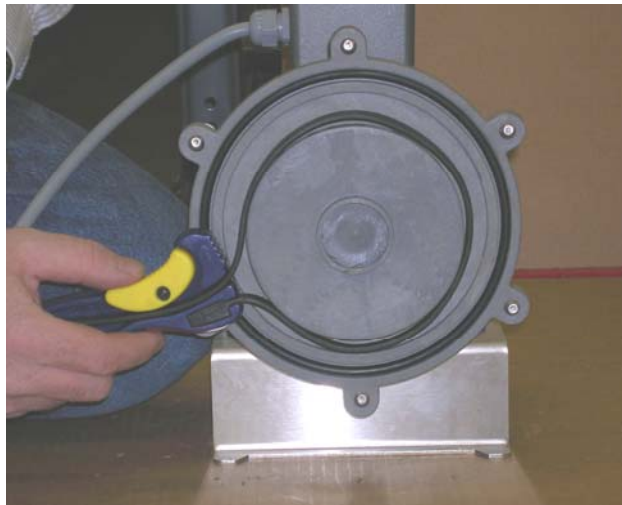

Figure 18 Removing the Impeller with a Strap Wrench
14. To ensure stability, hold the pump motor shaft in place from the back of the motor and remove the impeller by turning it counterclockwise using a strap wrench. (Refer to Figure 18.)